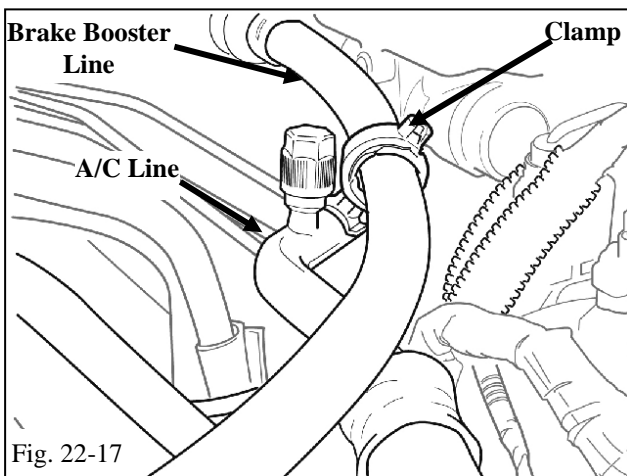

Fig. 22-17
- (w) On the driver's side of the supercharger, use the harness clamp (Item A15) and "C" Clip (Item A16) to secure the brake booster line which was installed in Step 14(m) to the A/C line (Fig. 22-17).